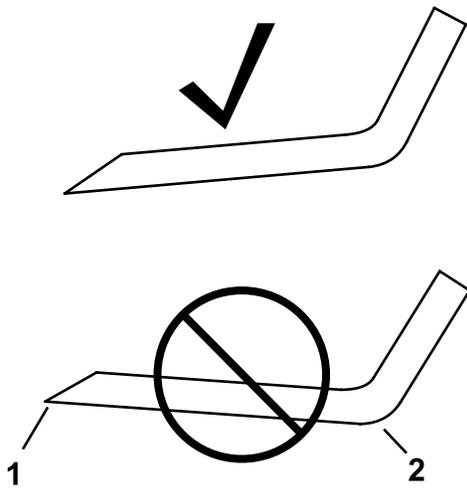

**Figure 103**
5. Inspect the cutting edges of all blades. Sharpen the cutting edges if they are dull or nicked. Sharpen only the top of the cutting edge and maintain the original cutting angle to make sure that it is sharp (Figure 103).
6. If dull or nicked, sharpen only the top cutting edge while maintaining the original cutting angle (Figure 103).